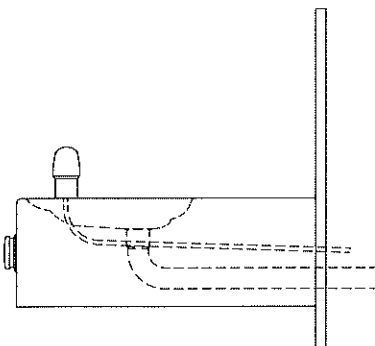

**FIG. 3**
3. Remove cable free play by adjusting the jam nuts on the ends of the operating cable. See Figure 3.